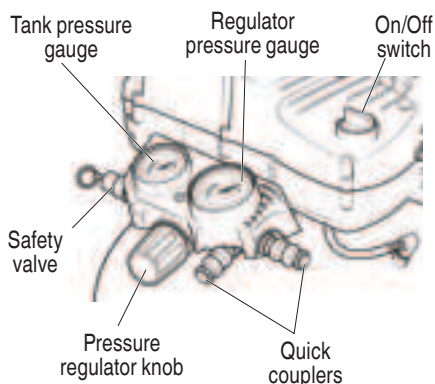

Fig. 3
- Insert the hose into the quick coupler already installed on the compressor (Fig. 3).
- Turn the pressure regulator knob fully clockwise to open the air flow. (Fig. 3)
- Place the switch in the **OFF (O)** position and plug in the power cord.